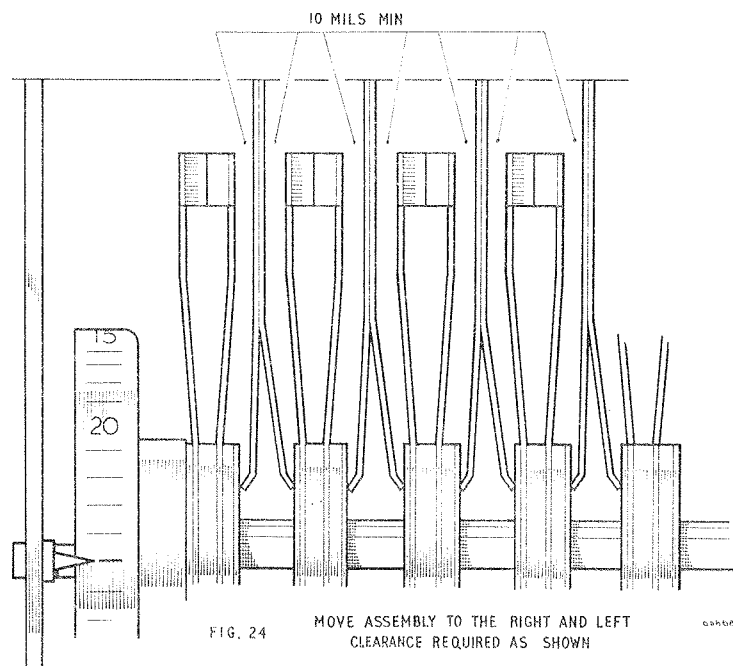

FIG. 24
16.4 Clearance Between Wipers and Brushes When the wipers are standing on the 23rd bank contacts and the wiper assembly is moved sideways on the spindle, there should be a minimum clearance of 10 mils between the brushes and the adjacent wipers (see Fig 24).